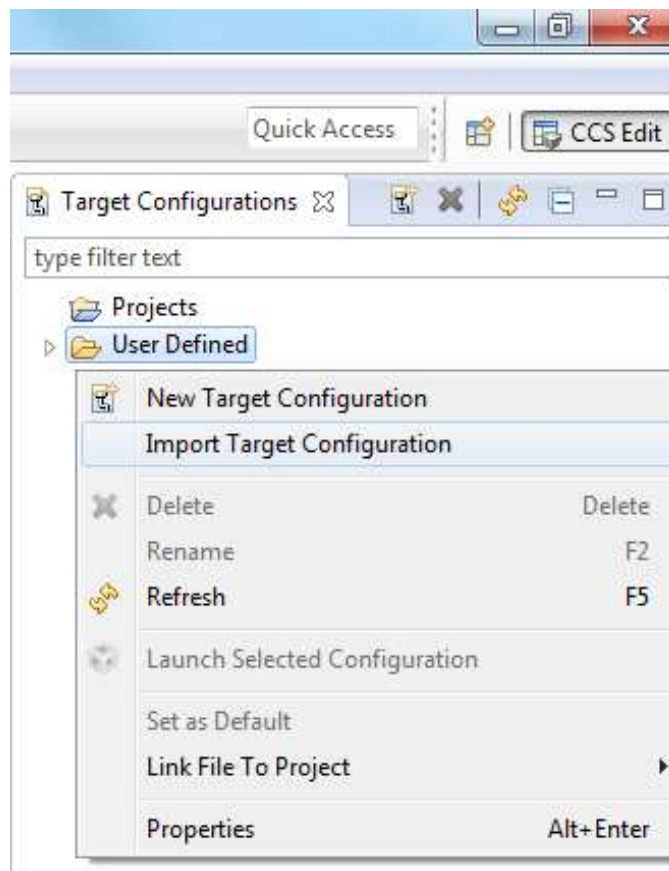

Figure 5-21. User Defined
2. Right-click on *User Defined*, select *Import Target Configuration* (see Figure 5-21), and select the file *CC3220_XDS110.ccxml* from `<sdk-installation-directory>\cc3220-sdk\tools\ccs_target_configurations\`. Select the *Copy files* option when prompted.